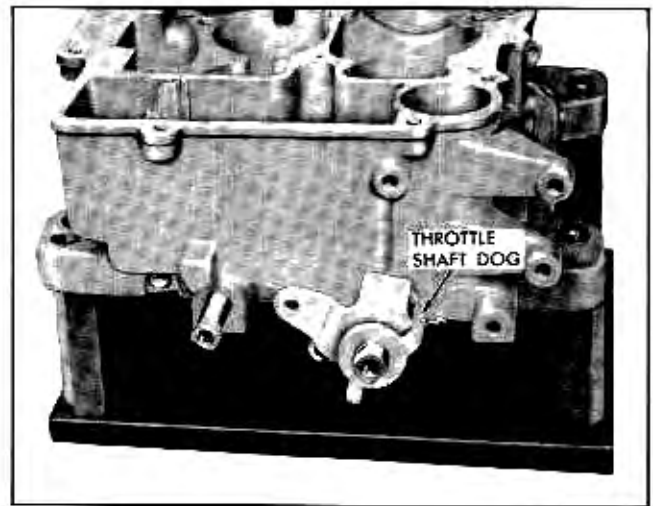

Fig. 6B-86 Throttle Shaft Dog Installed
7. Install throttle shaft dog on primary throttle shaft (Fig. 6B-86).